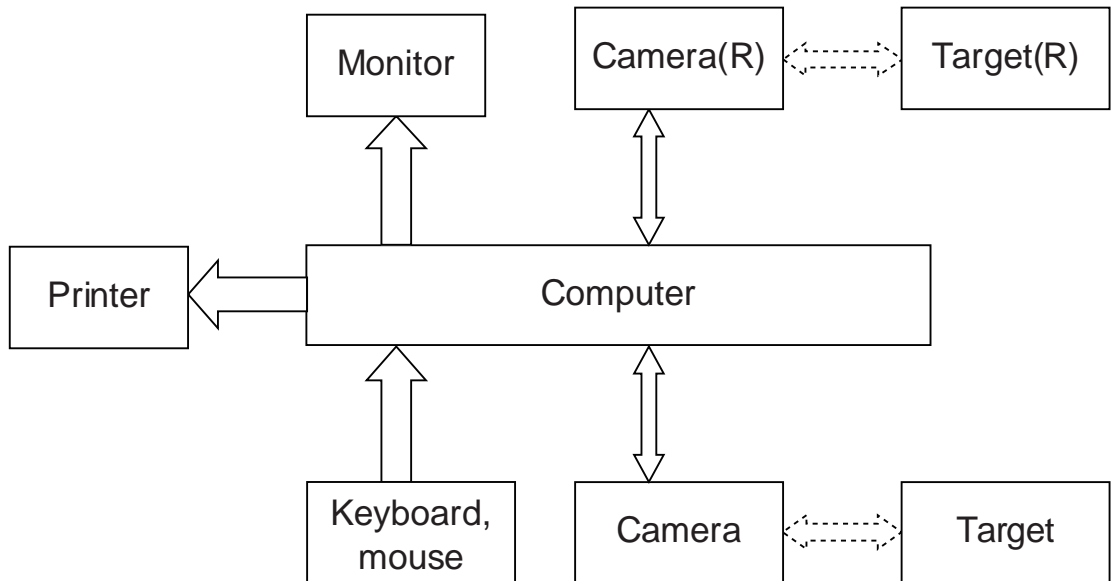

Figure 1.9
- 3D series wheel aligner working principle is as show in figure 1.9.